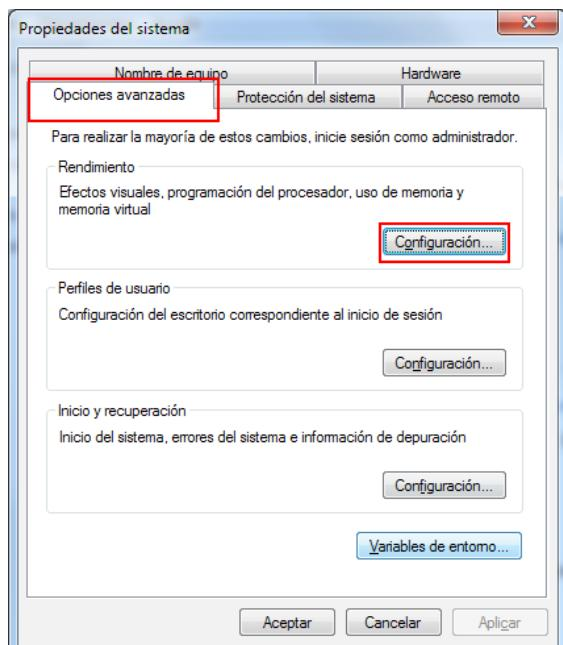

Ilustración 9.3
2. Select Advanced options and configuration. See Figure 9.3